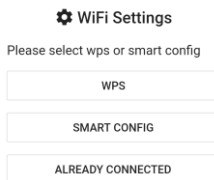

Figure 5
5) To set up the parameters of WiFi you can do this either selecting WPS either Smart Config (Figure 5):